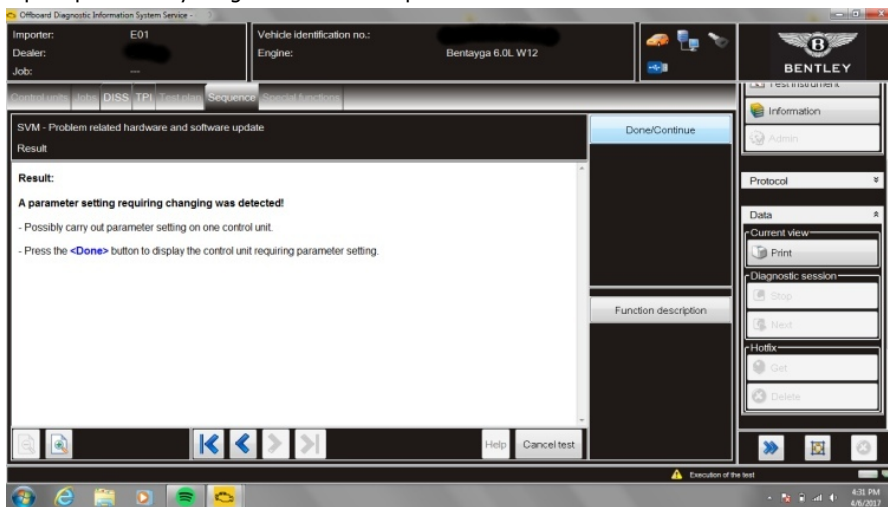

Figure 4
12. Once parameter setting that requires changing is detected select *Done/Continue* (see Figure 4)